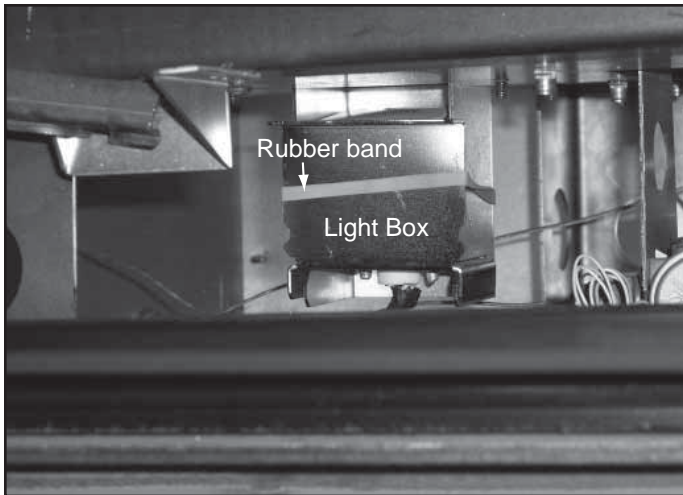

Figure 15.21 Light Box
- Locate one of the two light boxes (one on each side behind dashboard). See Figure 15.21.